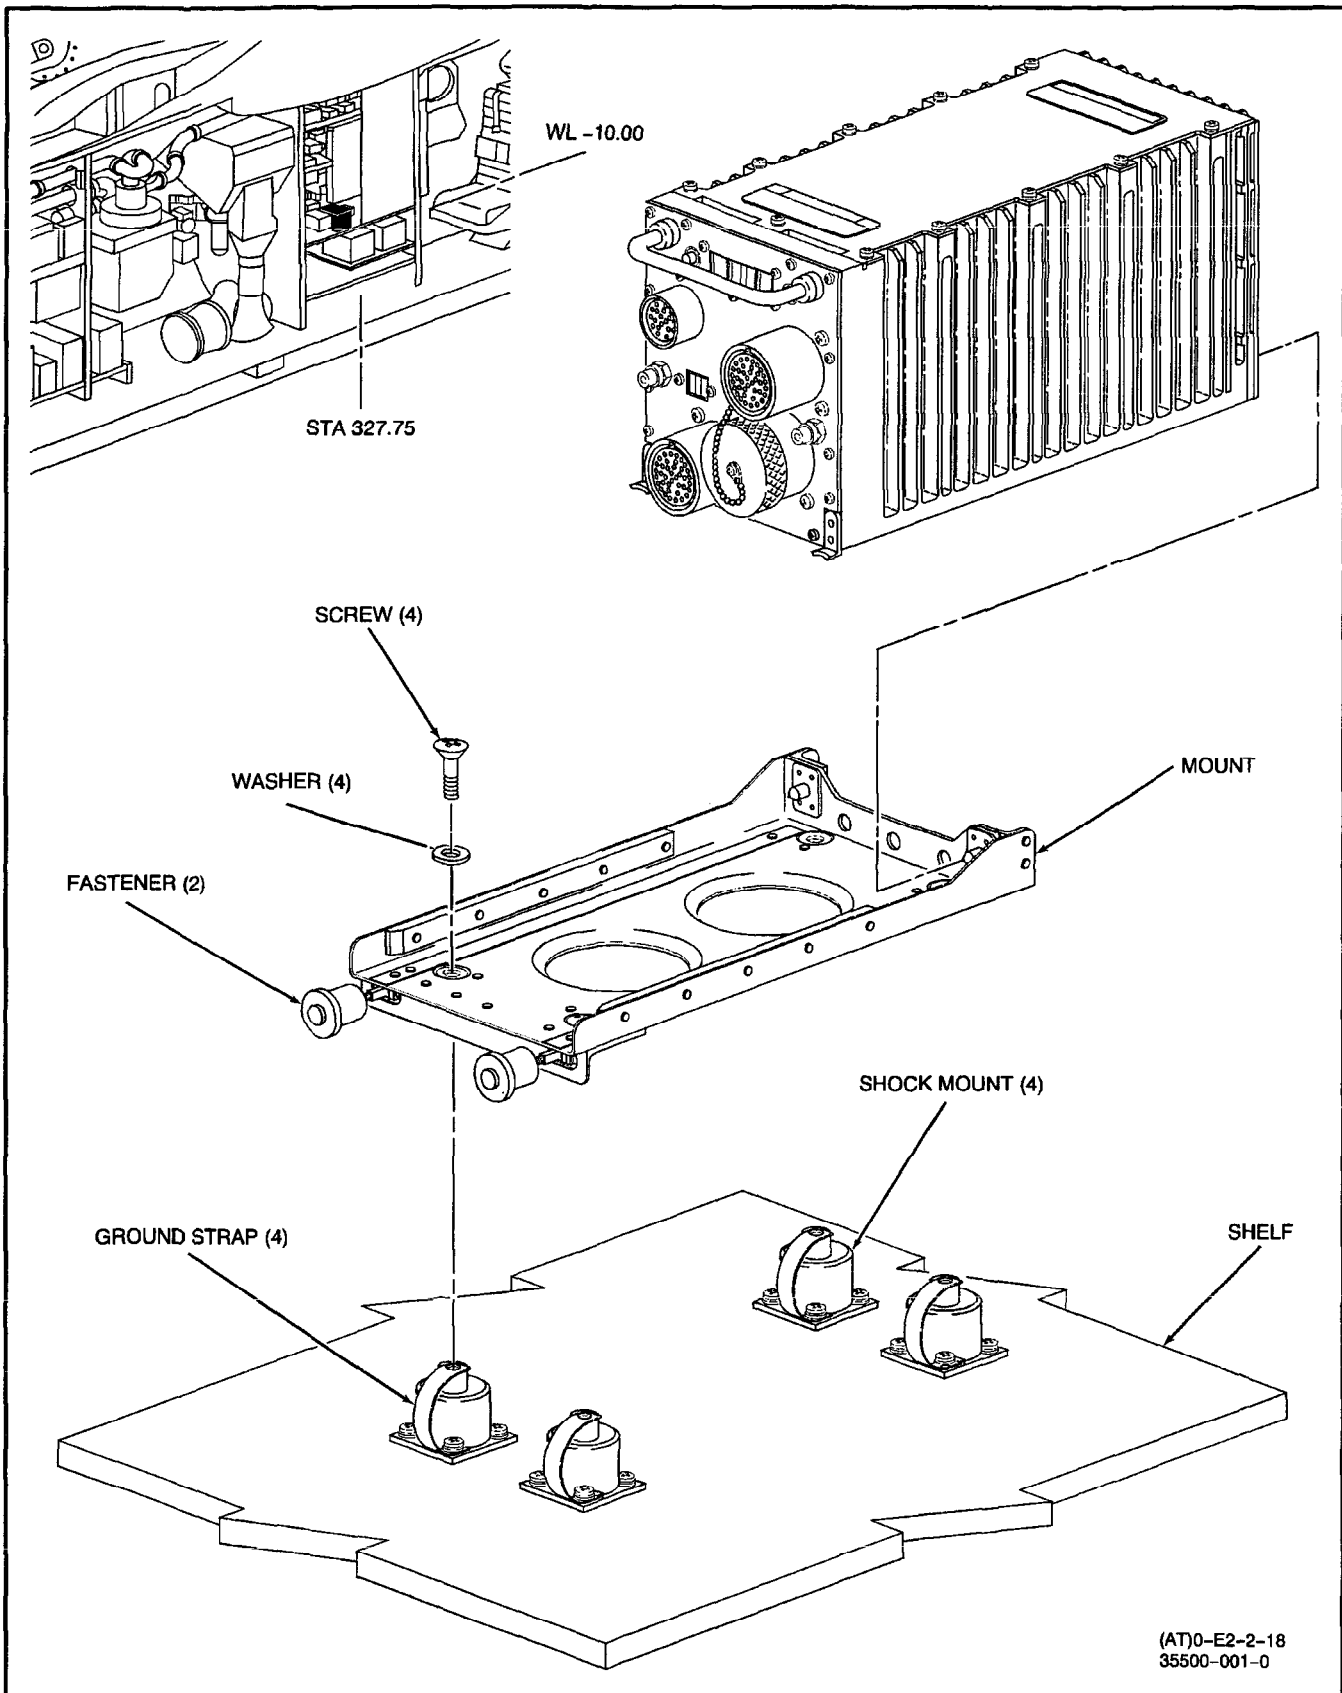

Figure 1. Removal and Installation of SAFCS Computer and Mount
**4. REMOVAL.** (Figure 1.)
**5. INSTALLATION. (Figure 1.)**